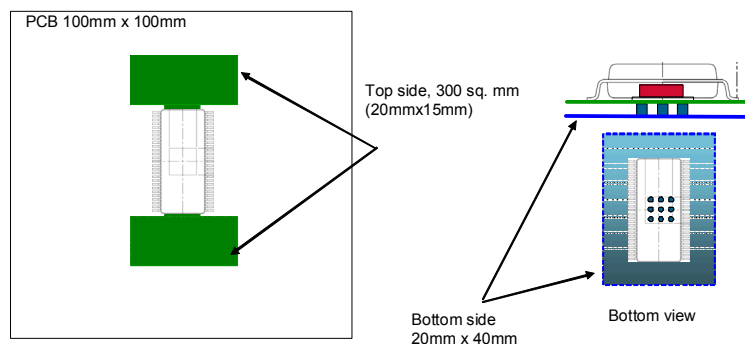

Figure 10. PCB with Top and Bottom Layer Dissipation Area (Dual Layer)
- This parameter was measured according to Figure 10: